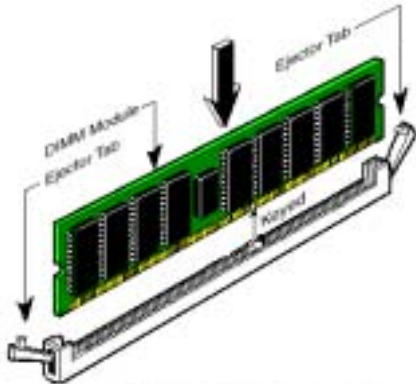

Figure 3-5. DDR DIMM module installation
- Step 5.** Insert the DDR DIMM module into the expansion socket as shown in the illustration. Note how the module is keyed to the socket. You can refer to Figure 3-5 for the details. ***This insures the DDR DIMM module will be plugged into the socket in one way only.*** Firmly press the DDR DIMM module into DDR DIMM socket, making certain the module is completely seated in the DDR DIMM socket.